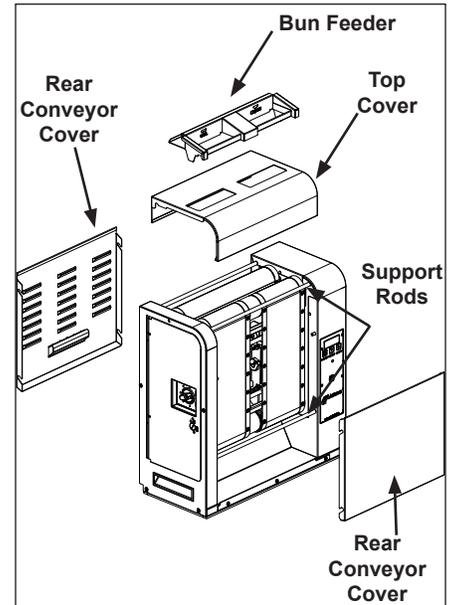

Figure 5. Removing Components
2. Wearing Heat-resistant gloves, Remove the bun feeder, top cover, and the front and rear conveyor covers (Figure 5).
9. Reinstall the clean front and rear conveyor covers, top cover, and bun feeder (Figure 5).